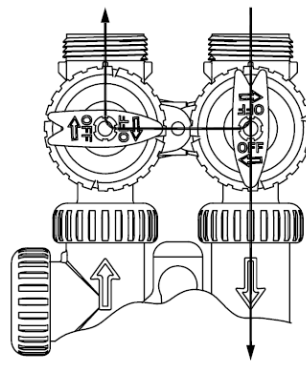

Figure 3
3. Diagnostic Position: inlet handle points in the direction of engraved arrow on the control valve and the outlet handle points to the center of the bypass. *Raw water is delivered through plumbing lines with treatment system supplied with water, but prevented from delivering treated water through outlet (Figure 3).*